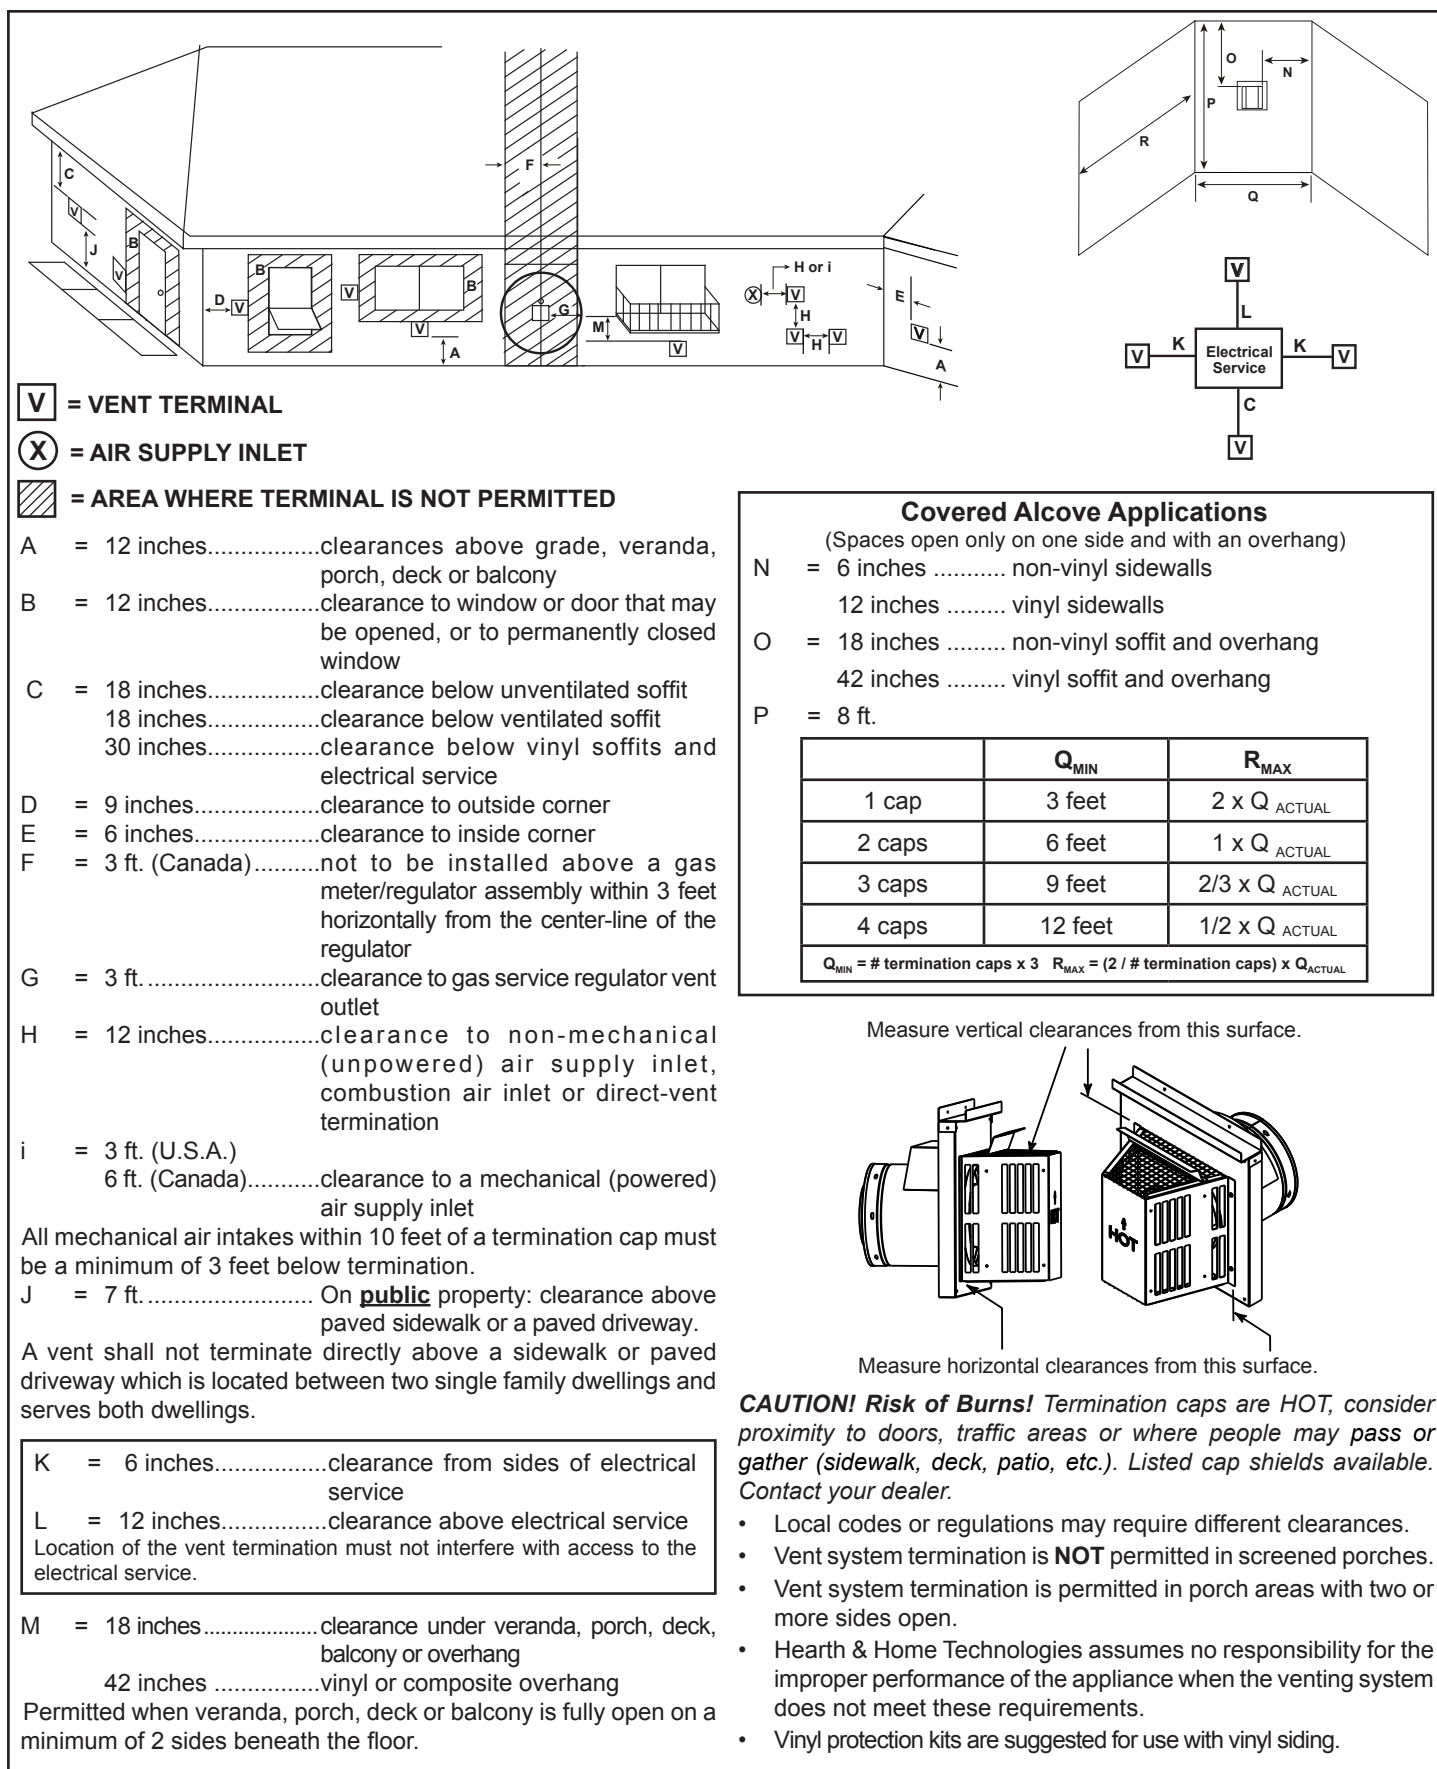

Figure 4.3 - Minimum Clearances for Termination
- Horizontal terminations are measured to the outside mounting surface (flange of termination cap) (see Figure 4.3).